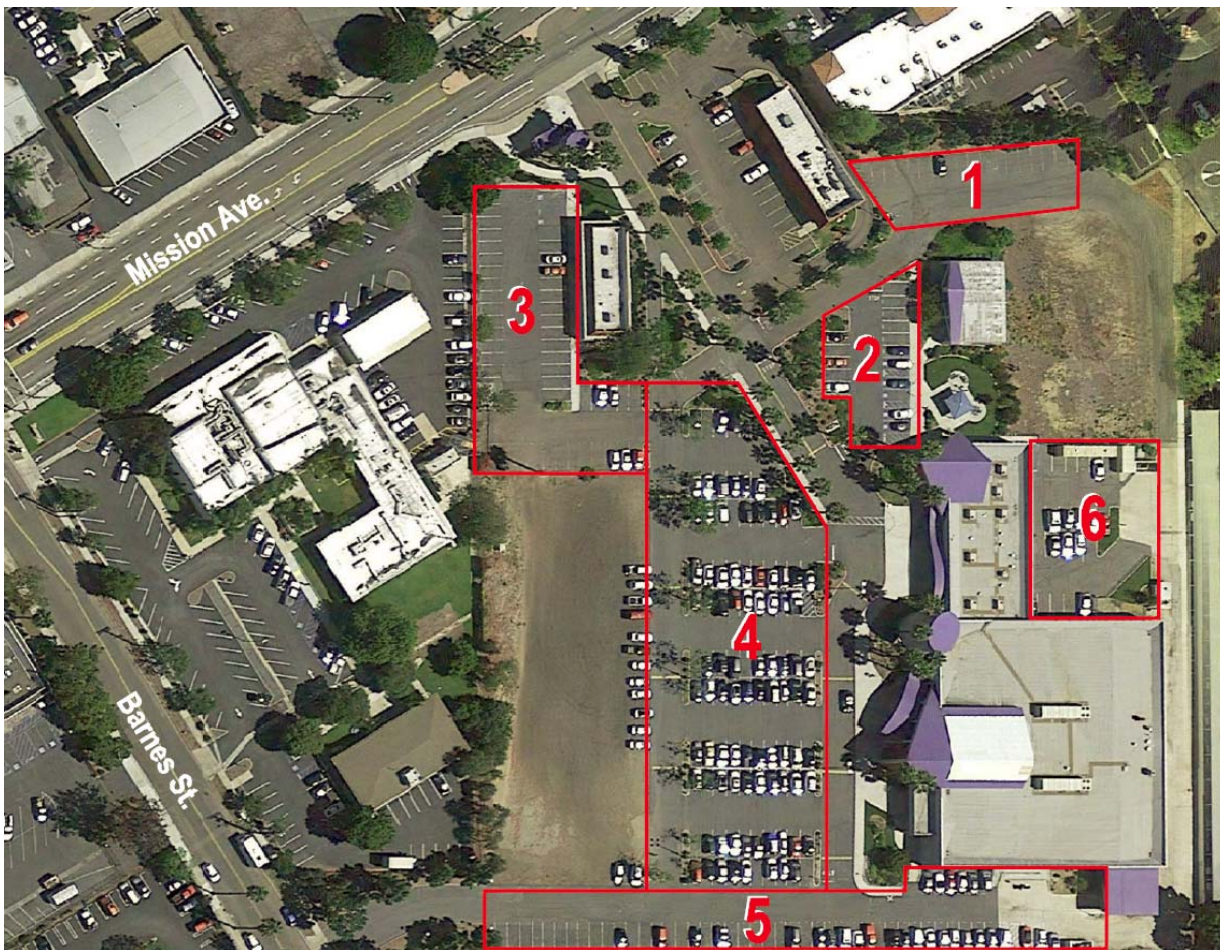

Figure 1: Community Learning Center Parking Zones
Parking is located throughout six (6) parking lots across campus. Currently, under the existing configuration, the Community Learning Center has a total of 244 surface parking spaces which include ten (10) accessible parking spaces. The City of Oceanside Parking Code requires a minimum of seven (7) accessible parking spaces for 244 regular parking spaces; therefore, the campus meets the minimum required number of accessible parking spaces. Figure 1 shows the division of Community Learning Center's parking areas into zones. Table A provides a breakdown of the campus' existing parking supply per study zone. It should be noted that future improvements include parking lot expansion and reconfiguration.